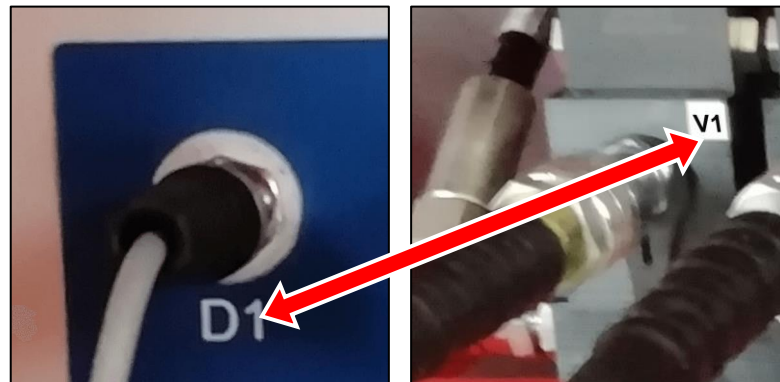

Figure 5.4: Hydraulic outlet port & Sensor Socket Matching
The SLF outlet ports are labelled V1 → V#. The outlet port number is important, as it is how each cylinder will be identified by the control unit (E.g. Outlet port V1 will be Jack 1) and it will dictate which electrical socket the displacement sensor of each cylinder **must** be connected to. E.g. The cable from the displacement sensor on the cylinder connected to outlet port V1 **must** be plugged into socket D1 on the electrical control box. (See Figure 5.4)
4. Use sensor signal cables to connect each displacement sensor to the corresponding port on the electrical control box. (See figure 5.4)